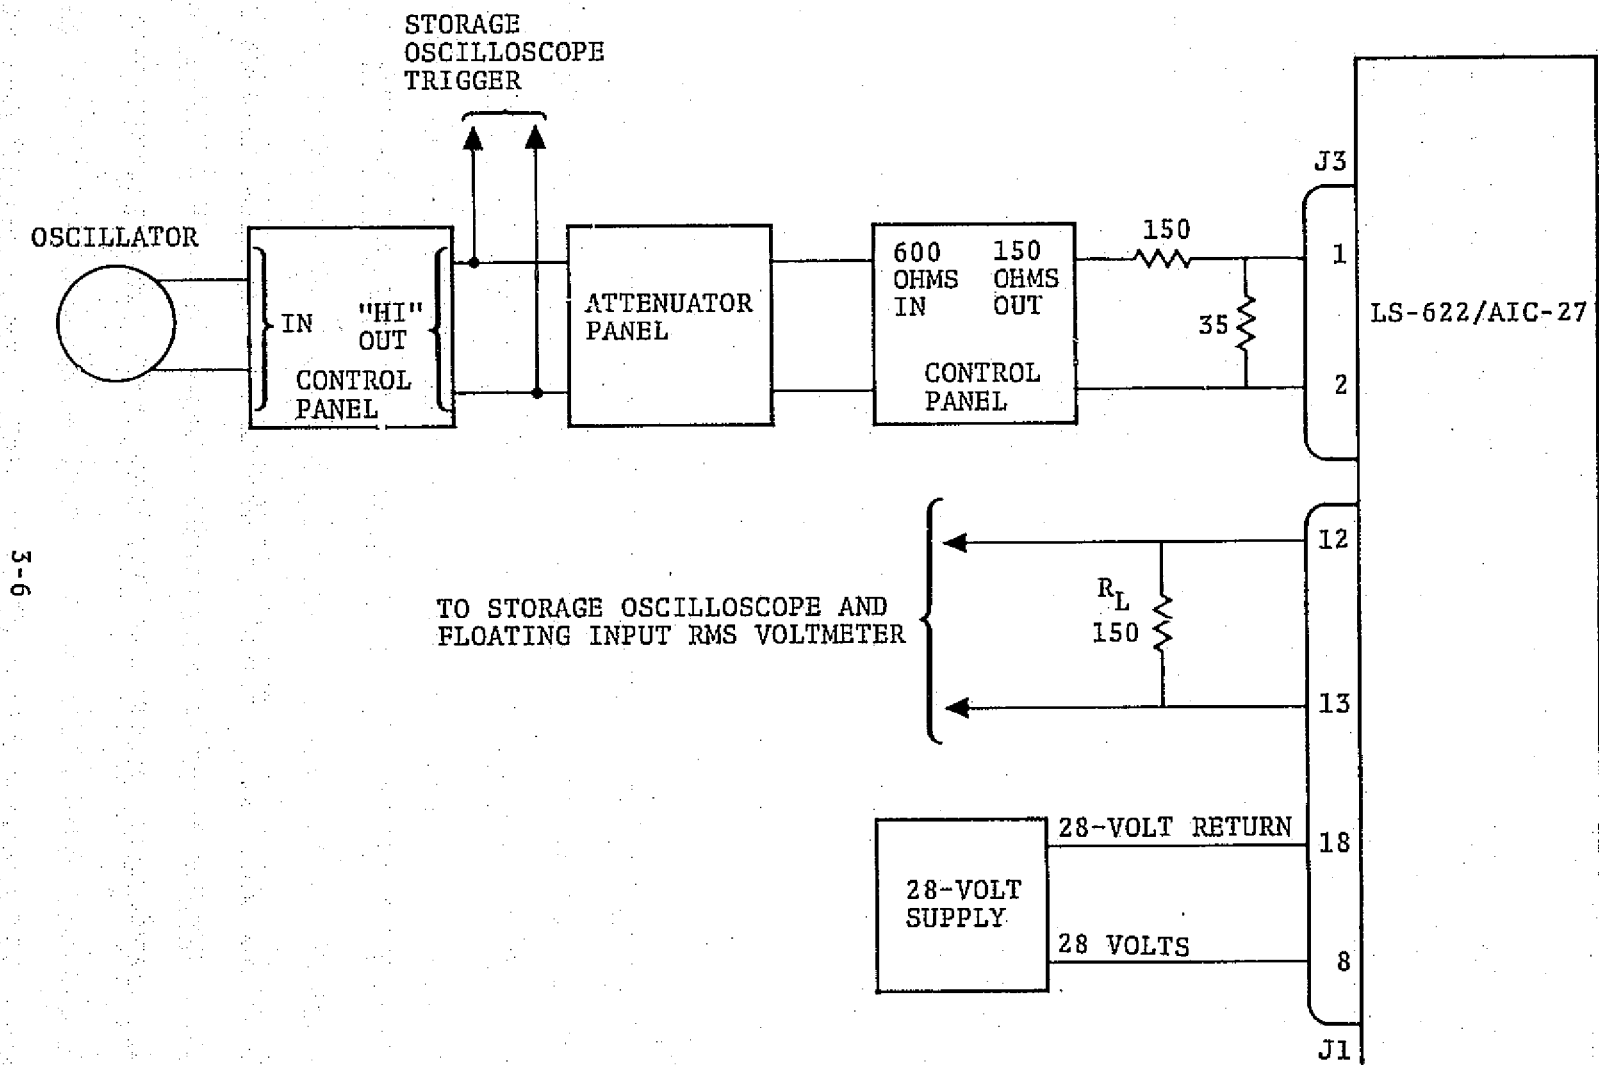

Figure 3-2. - Test setup: AGC attack time.
1. Connect the equipment as shown in figure 3-2.